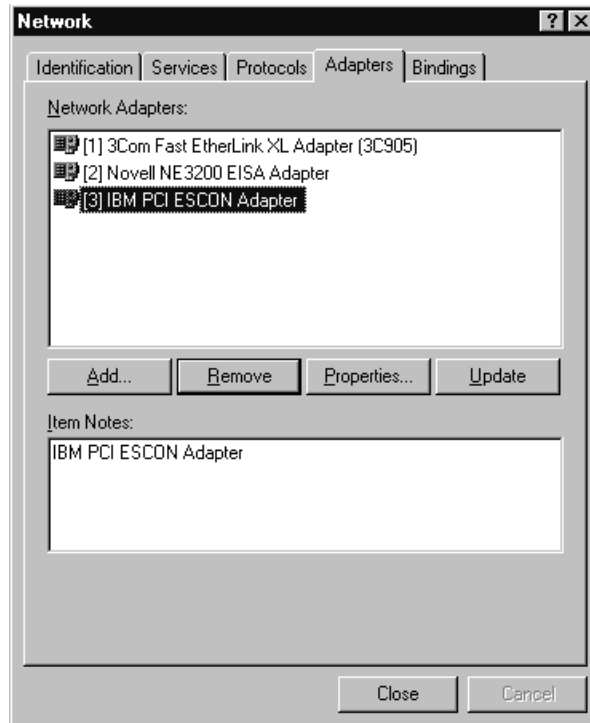

Figure 6-12. Adapter List with ESCON Adapter
2. Click on the Adapters tab (Figure 6-12). Make sure the IBM PCI ESCON Adapter is listed. If not, you must install the adapter before installing TCP/IP Direct Connect (Refer to Page 9).